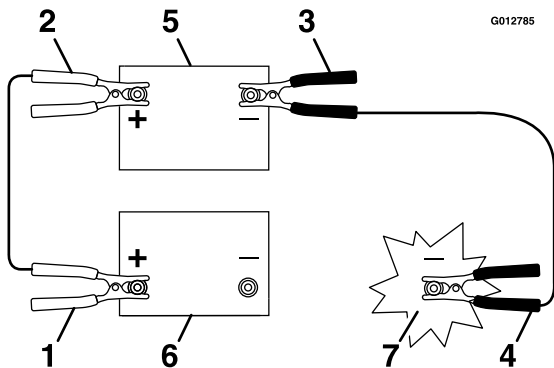

Figure 68
3. Connect the positive (+) cable to the positive (+) terminal of the discharged battery that is wired to the starter or solenoid as shown in Figure 68.